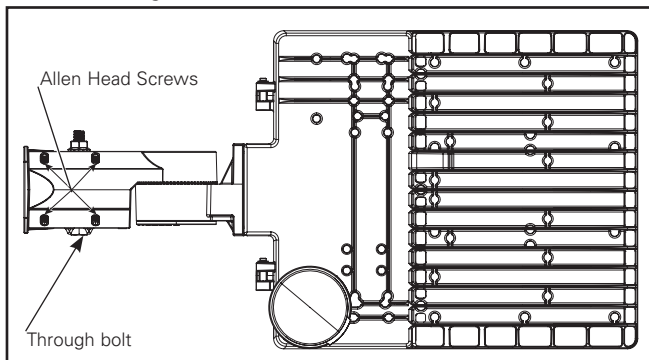

Figure 6.
- Remove the slipfitter through bolt and install slipfitter onto 2-3/8" O.D. tenon. Be careful not to pinch any wires and tighten the four Allen head set screws to 30 in-lbs. (Figure 6.)
- If mounting to a horizontal tenon, reinstall the through bolt to secure fixture to tenon. Tighten through bolt to 120 in-lbs. (Figure 6.)